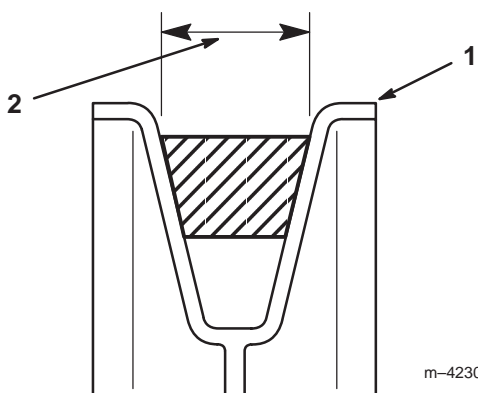

Figure 13
7. Make certain that the wide side of the PTO drive belt is toward the outside diameter of **all (four) pulleys (Fig. 13).**